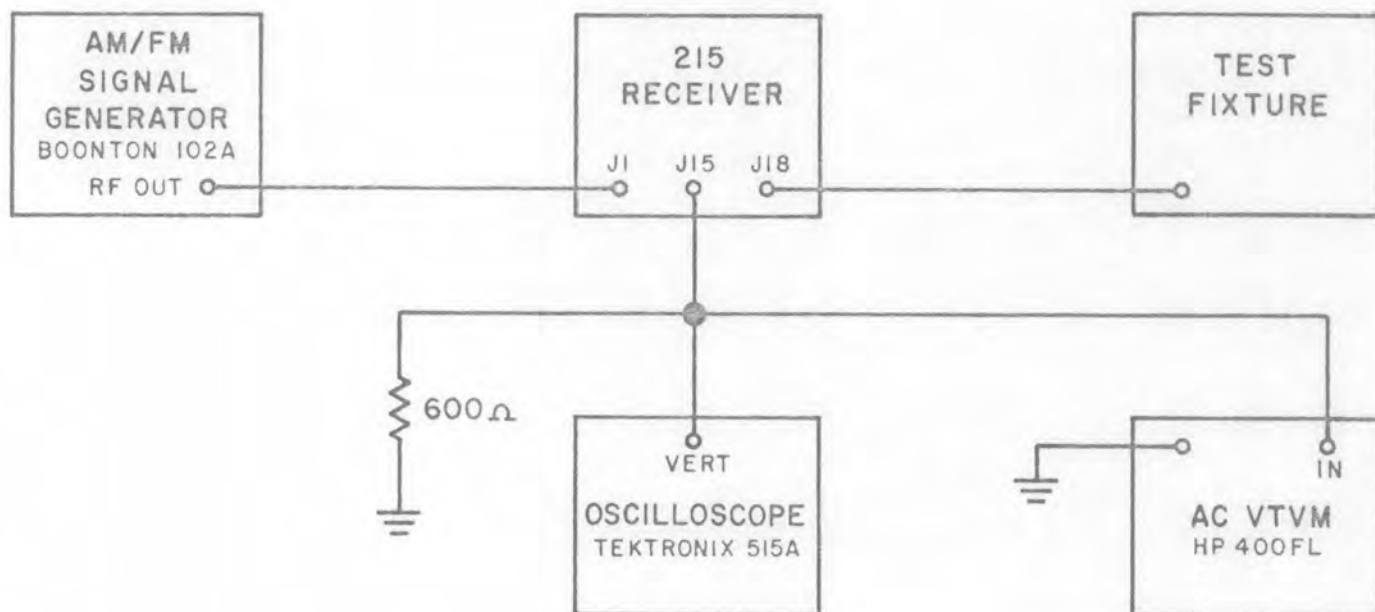

Figure 4-12. Test Setup, Remote Indicator Checks
(1) Connect the equipment as shown in Figure 4-12.